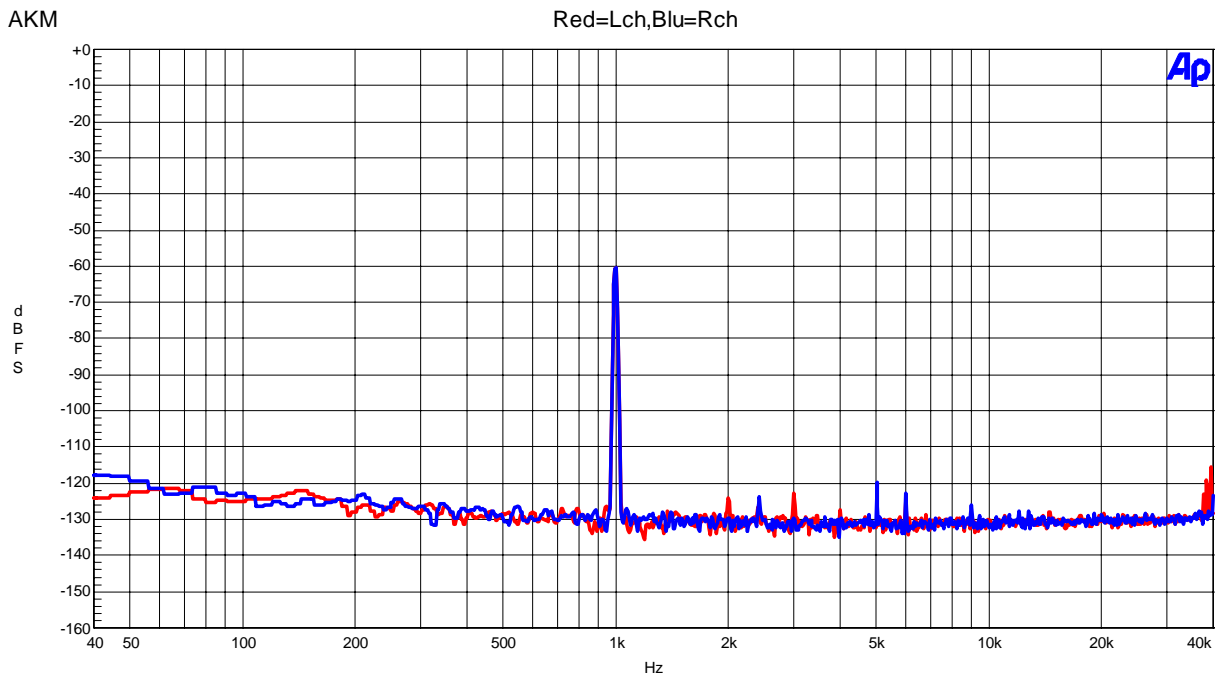

Figure 10. FFT(Input Frequency=1kHz,Input Level=-60dBFS)
- Figure 10. THD+N vs Input Level (Input Frequency =1kHz)